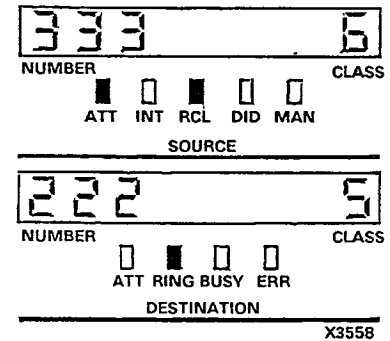

Figure 303-3
- * SOURCE display (Figure 303-3) shows the number and COS of check extension 1